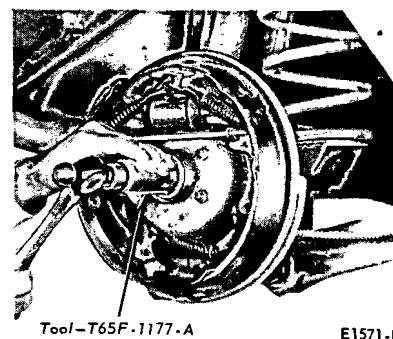

FIG. 9 Rear Axle Shaft Bearing Seal Installation
4. Install the oil seal with the tool shown in Fig. 9. Installation without the use of the proper tool will distort the seal and cause leakage.